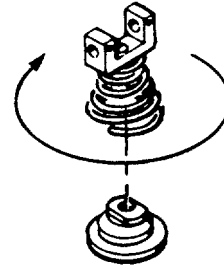

Figure 12-30. Speeder Spring Assembly
- (29) Place speeder spring assembly (43) figure 12-30) on top of ball head assembly. Press down and twist the spring clockwise to seat the spring on the spring seat (85).